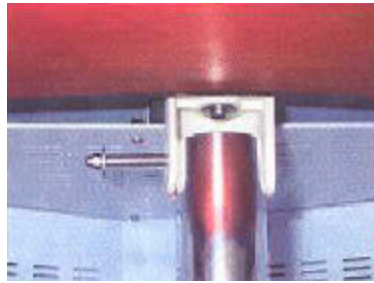

Figure 1
3. Remove power to the cooler by turning the toggle switch at the back of the cooler to the off position (see “2” in Figure 1) or by unplugging the Cooler.
8. While holding on to the Aluminum Profile Shelf Shaft (see Fig 5) pull the Shelf Shaft Blocking Journal from the Coupling Sleeve (see Figure 1).